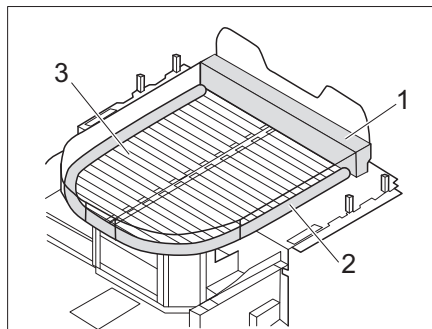

Fig. 176 Bed with mattress extension (with additional mattress and bed slats)
- Place the additional mattresses (Fig. 176,1 and 2) on the front side and around the queen size bed.
- Pull out the bed slats (Fig. 176,3).